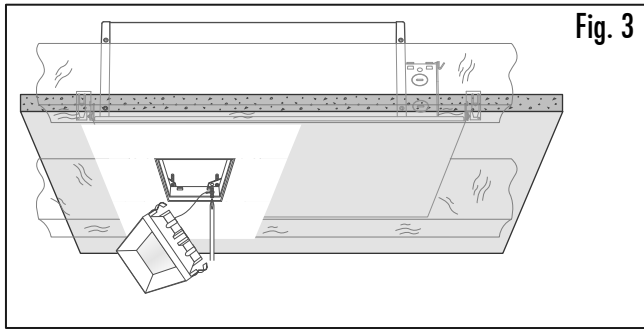

Fig. 3
6. Fasten the Earthquake trim retention cable to the remaining hole on the inside of the square collar assembly. (Fig. 3)